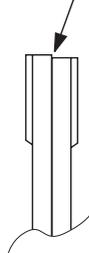

Figure 1. Portion of Problem Cassette Tape
- a) Leaf springs (pos. 199) which are responsible to create a rotating movement for the cassette during "door eject" are too weak to push the cassette out of the capstan pin.
- b) Mis-matched housing parts of the cassette (see fig. 1) rub/scratch against the support ribs of the cassette door (pos. 200).